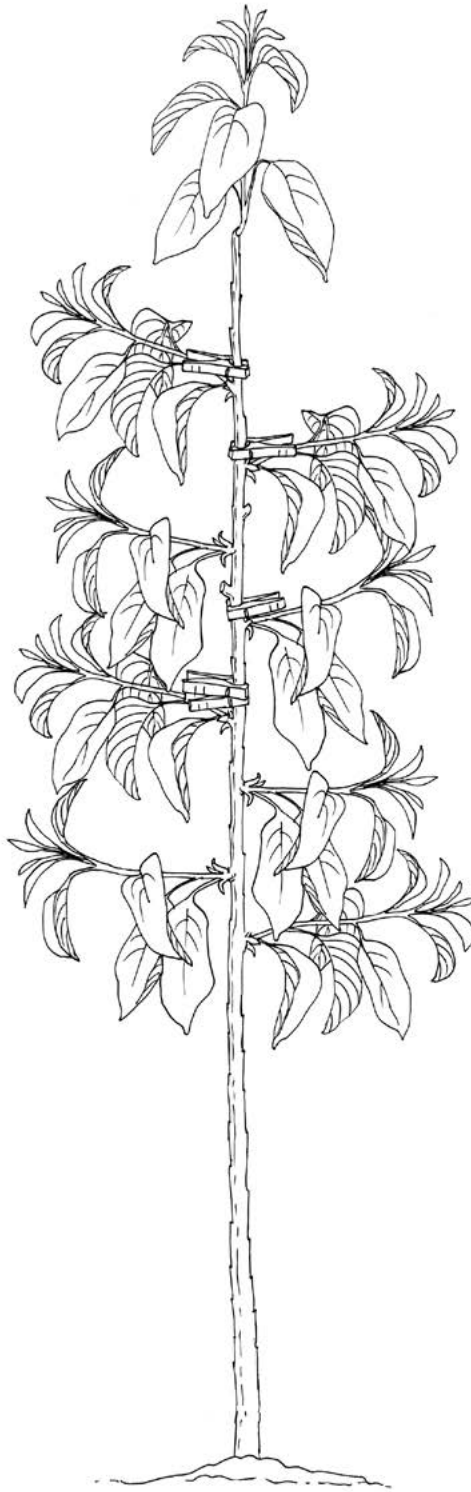

Figure 56
- Clothespins can be removed after 2 to 3 weeks, or set to just behind the shoot tip to help keep the shoot from turning upwards (Figure 56).